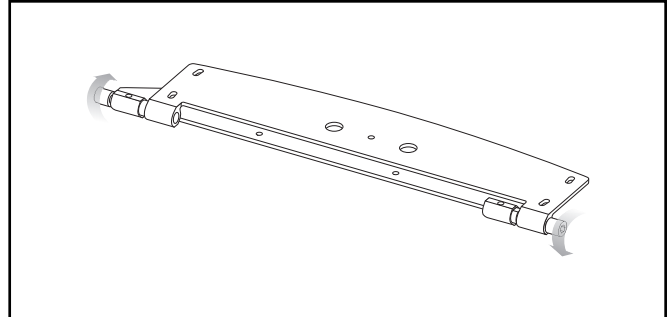

Figure 12. Loose the 2 cap nuts.
- 2 Using the 6mm Allen tool, loosen the 2 cap nuts (see figure 12).